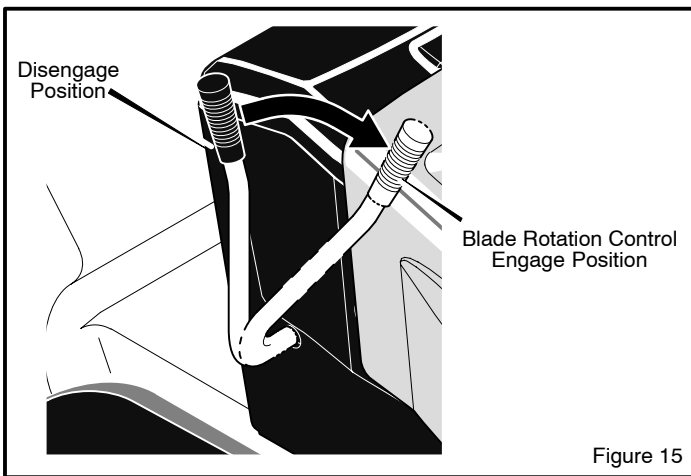

Figure 15
2. Move the **blade rotation control** to the **DISENGAGE** position (Figure 15).